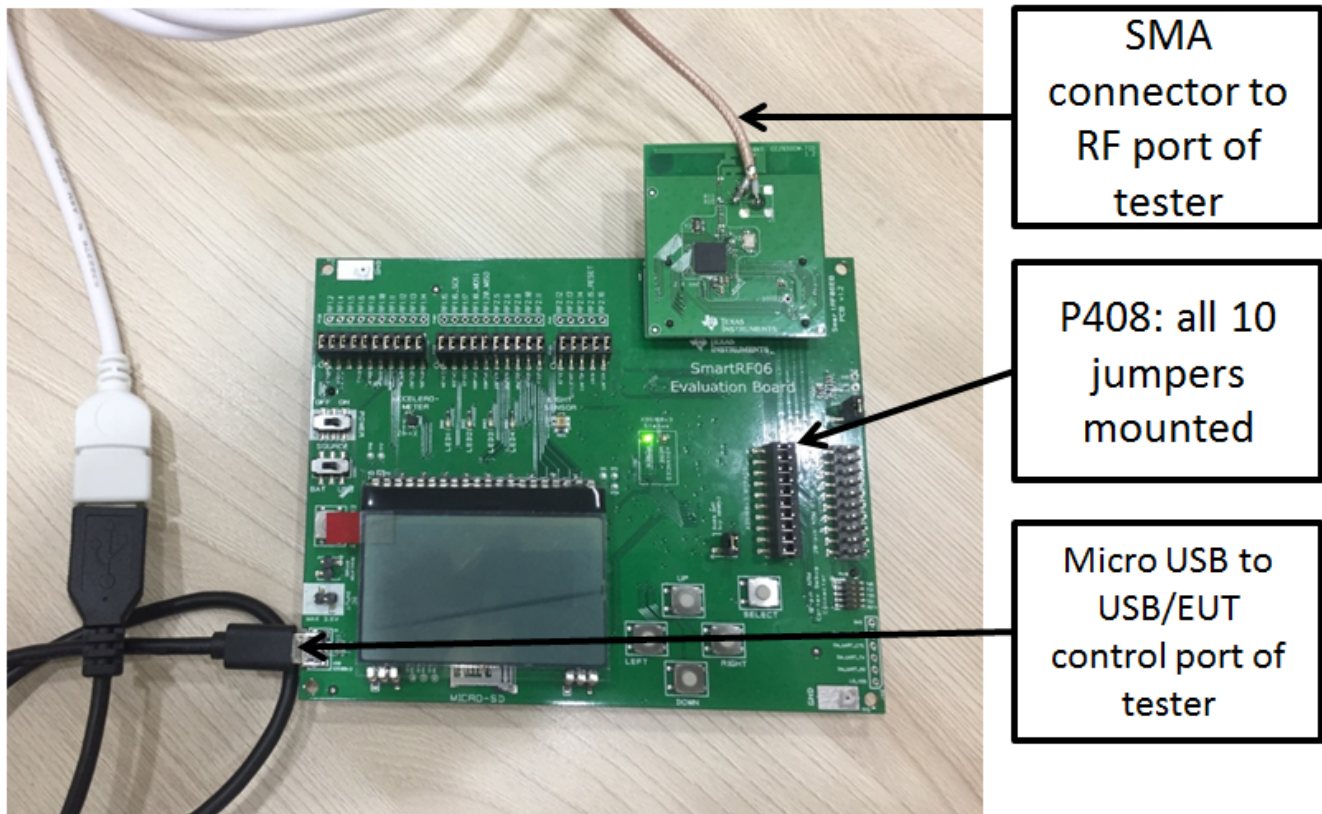

Figure 5. Hardware Setup for the CC2650DK in USB Mode
8. The full setup should look similar to the one in Figure 5. Using an SMA connector on the CC2650DK J1 is preferred. In Figure 5, the coaxial cable is soldered directly onto PCB).